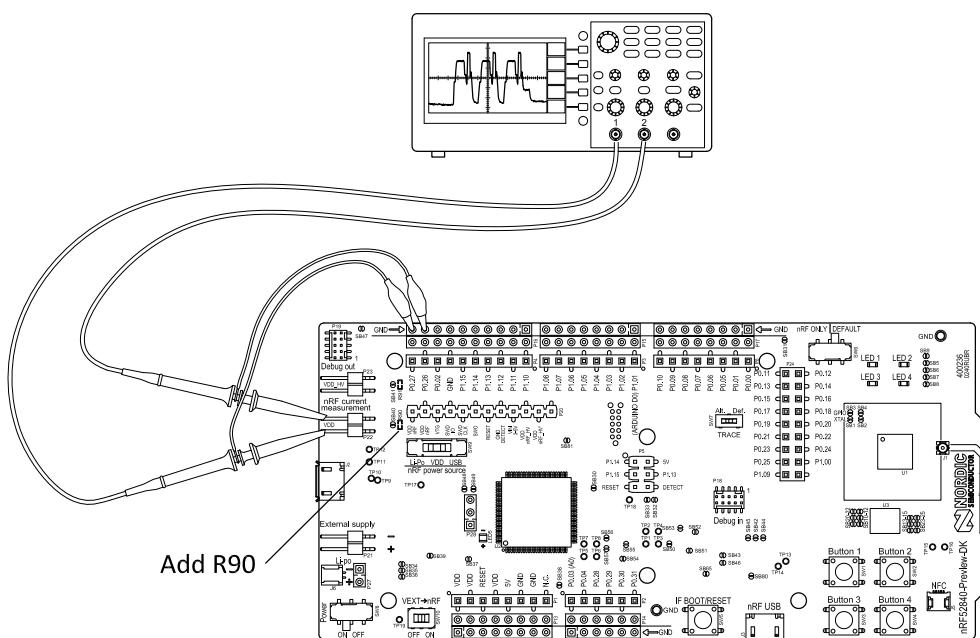

Figure 27: Current measurement with oscilloscope
2. Connect an oscilloscope in differential mode or similar with two probes on the pins of the **P22** connector as shown in Figure 27: Current measurement with oscilloscope on page 31.